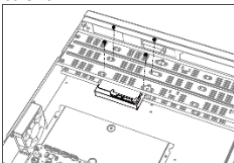

Figure 2-2 Fix HDD
**Step 2** Fix the HDD on the bracket with screws. Refer to Figure 2-2.